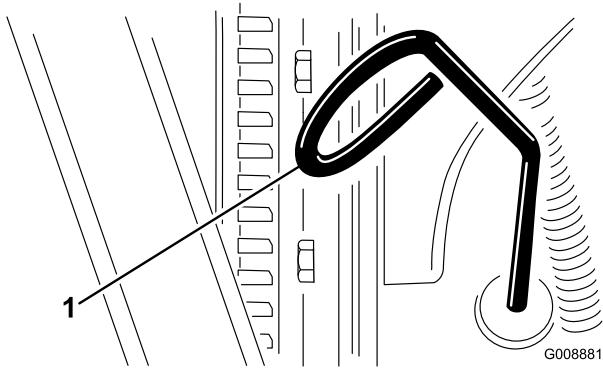

Figure 32
2. Remove the dipstick (Figure 32) and wipe it with a clean rag.